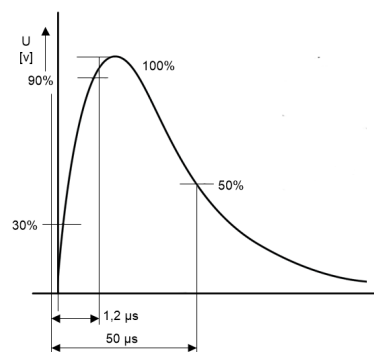

Figure 2. Surge Transient Waveform
- **Maximum surge isolation voltage ( $V_{\text{IOSM}}$ ):** Quantifies the ability of the isolator to withstand very high voltage impulses of a certain transient profile. This waveform is shown in Figure 2. This parameter represents direct and indirect lightning strikes. As per IEC 60747-5-5 and VDE 0884-11, an isolator claiming a certain  $V_{\text{IOSM}}$  must pass the surge test at a peak voltage of 1.3 times  $V_{\text{IOSM}}$  for basic isolation, and 1.6 times  $V_{\text{IOSM}}$  for reinforced isolation. A digital isolator can be called reinforced at the component level, only if it passes the surge test at a level greater than 10kV.